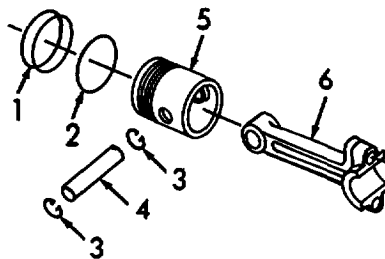

Figure 4-2. Piston and Connecting Rod, Repair.
- (1) Repair of the air compressor (except for the piston and connecting rod assemblies) is limited to the replacement of defective parts.
- (2) Repair the piston and connecting rod assemblies is as follows (Refer to Figure 4-2):
- (a) Carefully remove both compression rings (1) and the oil ring (2). Discard the rings.
- (b) Remove both snap rings (3) and using an arbor press, press out the piston pin (4).
- (c) Separate the piston (5) from the connecting rod (6).